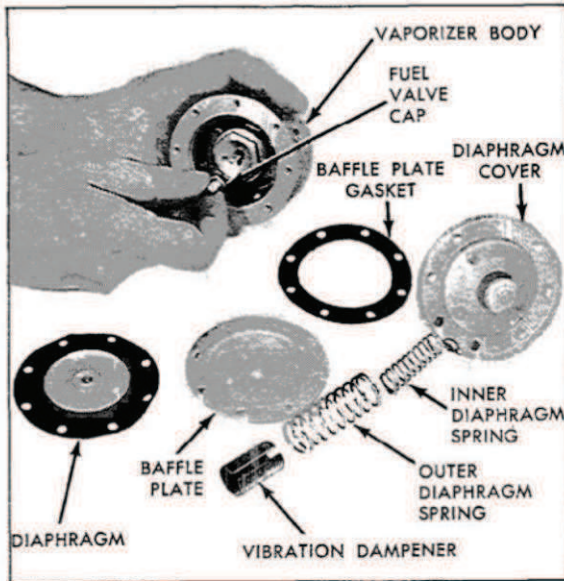

FIG. 8
3. Place fuel valve cap on fuel valve stem. (Fig. 8).
4. Install four (4) studs in alternate holes in top of vaporizer body and then install a new baffle plate gasket, baffle plate, recessed side down, and diaphragm, flanged disc up. Use studs to align parts.